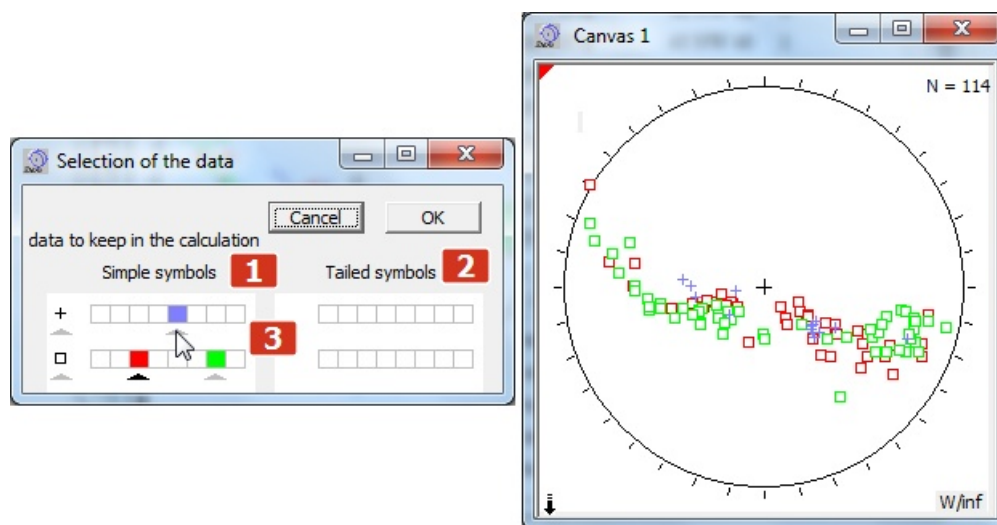

Fig. 57 The dialog to select data in a canvas
- Fig. 57 The dialog to select data in a canvas